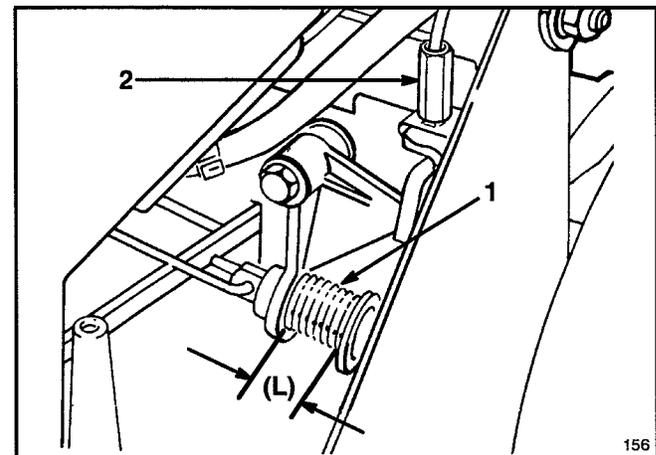

Figure 29
3. Move control bar down and lift up against handle. With control bar against handle, measure the spring length (L) at the front of the spring as shown in Figure 29.
5. To adjust, rotate plastic fitting on blade brake cable (Fig. 29) until spring dimension is as near as possible to but not less than 25 mm (1"). (See following note.)
4. Remove any debris that may have accumulated in area behind panel (Fig. 29).